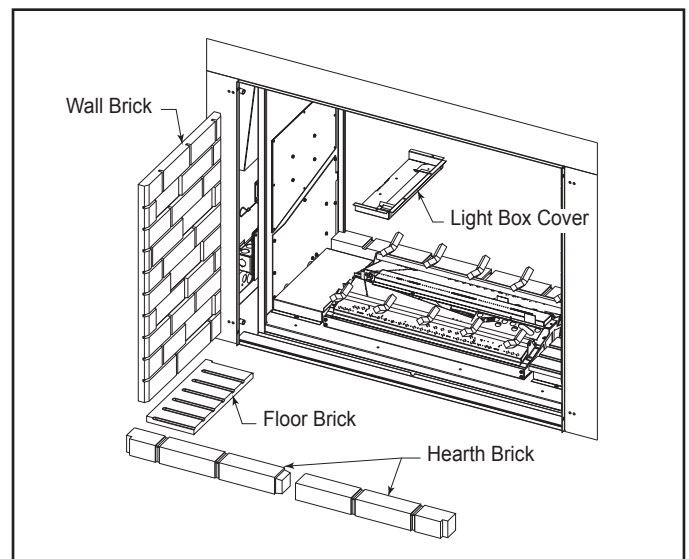

Figure 10.9 Install Brick
2. Install the four (4) hearth brick pieces, two on each side of the unit, in front of the burners from the indoor side.
4. Place the wall brick panels against the firebox walls, setting on the floor and hearth bricks. The wall brick will be held in place by the brick retainer tab on the light box cover. See Figure 10.9.